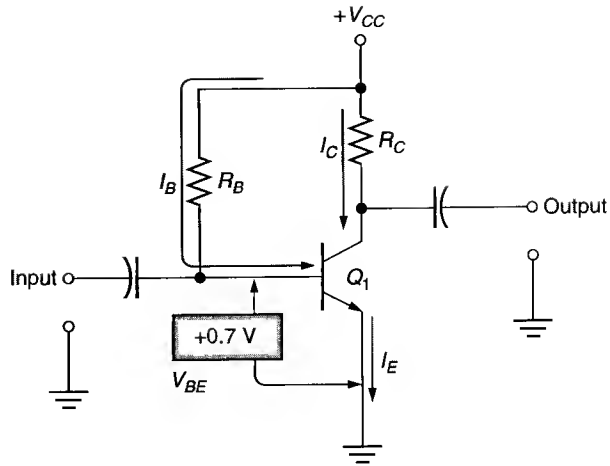

FIGURE 7.9 Base bias.
The simplest type of transistor biasing is **base bias**, or **fixed bias**. A base-bias circuit is shown in Figure 7.9. Current enters the circuit from V_{CC} and splits, with most passing through the collector resistor (R_C) to the transistor collector and the rest passing through the base resistor (R_B) to the base. The sum of the currents then exits the transistor emitter and returns to ground. As long as power is applied to the circuit, the terminal currents are in the direction indicated in Figure 7.9.
If we connect a meter from the transistor base to ground, as shown in Figure 7.9, that meter is in parallel with the base-emitter junction of the transistor. Therefore, the voltage
9. Explain how the transistor in Figure 7.9 can be driven into saturation by increasing the value of the collector resistor (R_C).